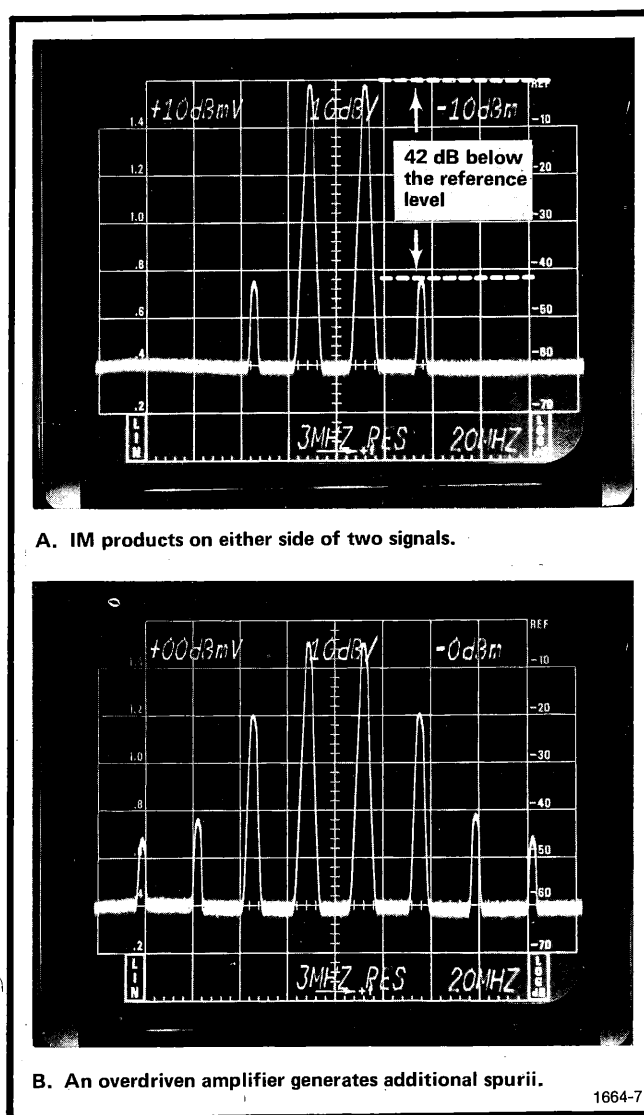

Fig. 3-4. Display of IM distortion and an overdriven amplifier.
d. Decrease the 7K11 REFERENCE LEVEL (attenuator) setting in 10 dB steps and increase the Spectrum Analyzer RF Attenuator setting in 10 dB steps until the intermodulation signals appear on the display. See Fig. 3-4. NOTE: Verify the 2:1 ratio of the IM products by noting the amplitude increase for a 10 dB change in the 7K11 input level. If the amplifier is not overdriven, the amplitude level of the IM products will increase 20 dB with a change of 10 dB attenuation. When the amplifier is overdriven, additional spurs will be generated either side of the IM signals. If this occurs, increase the 7K11 RF ATTENUATOR setting and decrease the Spectrum Analyzer RF Attenuator setting.